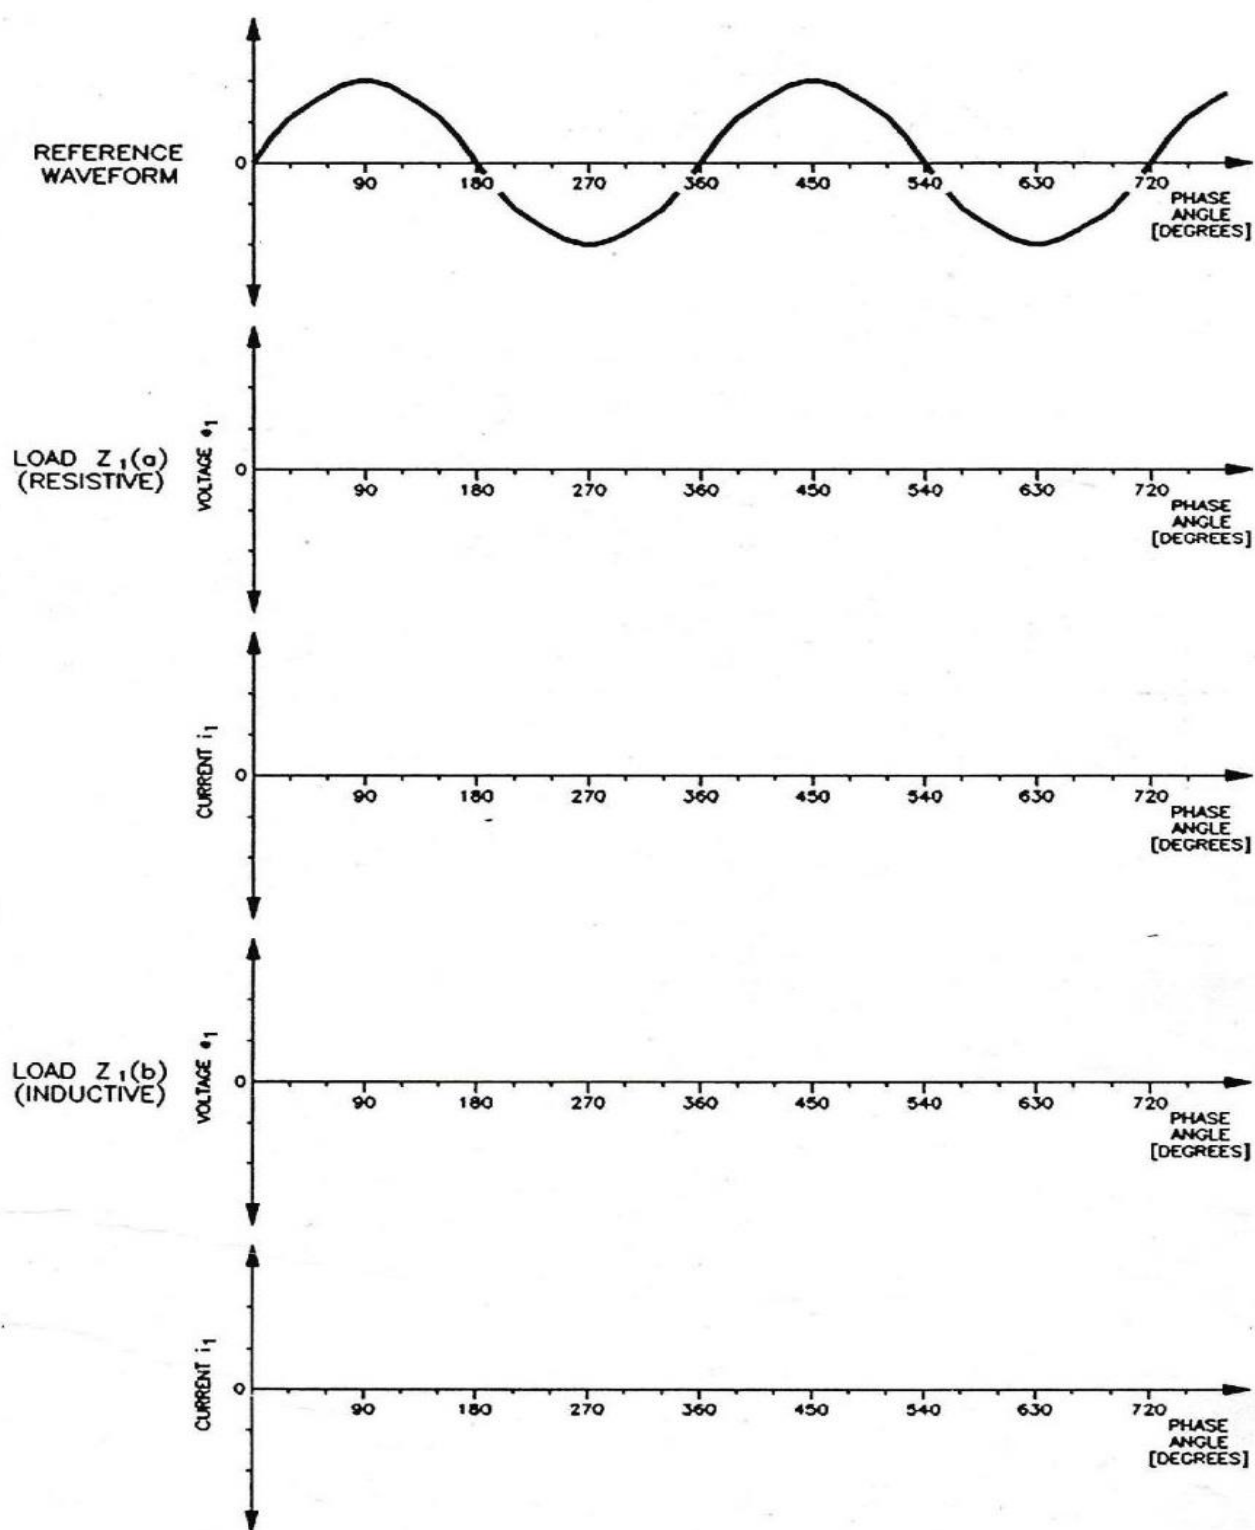

Figure 2-5. Voltage and current waveforms for three-phase, three-pulse rectifier.
Sketch the voltage and current waveforms in Figure 2-5. Record the ripple frequency.
- ☐ 10. With the power off, change the load in the circuit to the inductive load  $Z_1(b)$ . Repeat the procedure steps necessary to complete Table 2-1 and Figure 2-5.